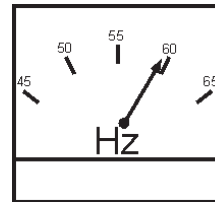

Figure 50. Frequency Meter (Hz)
11. The generator's frequency meter (Figure 50) should be displaying the 60 cycle output frequency in **HERTZ**.